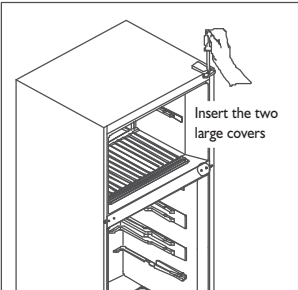

Fig. 4
- 4. Unscrew the screw fastening the top hinge cover and remove it. Unscrew the two screws holding the top hinge and remove it. Insert the two large covers - contained in the user manual bag - in the holes on the left side. (Fig. 4)